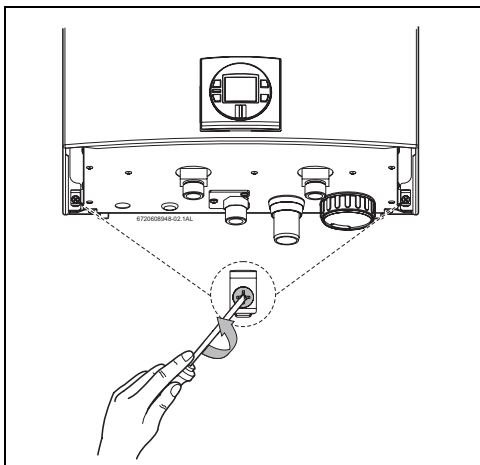

Fig. 23 Loosen the two screws
- ▶ Loosen the two Philips head screws located on bottom rear of cover (Fig. 23).